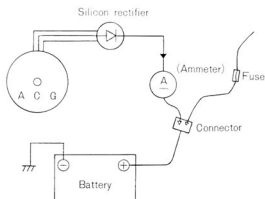

Fig. 6-2-5 Measuring the Output Current
- a. Connect a tester (D.C. ammeter, 10 A) to the battery as shown in Fig. 6-2-5, and measure the current at specific engine r.p.m., with the switch both for day and night.